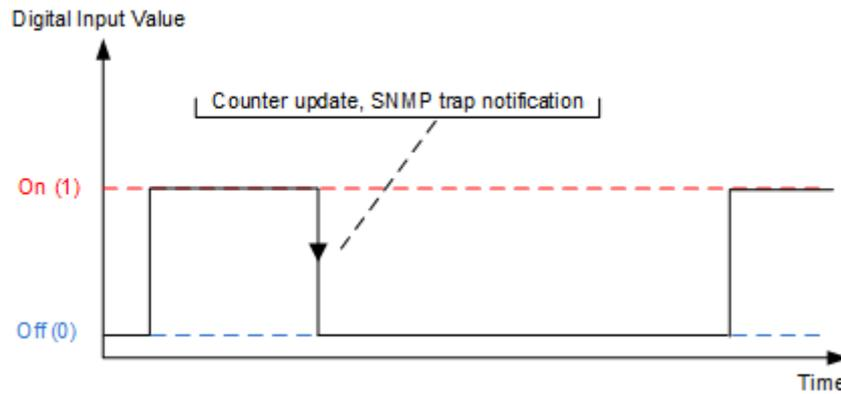
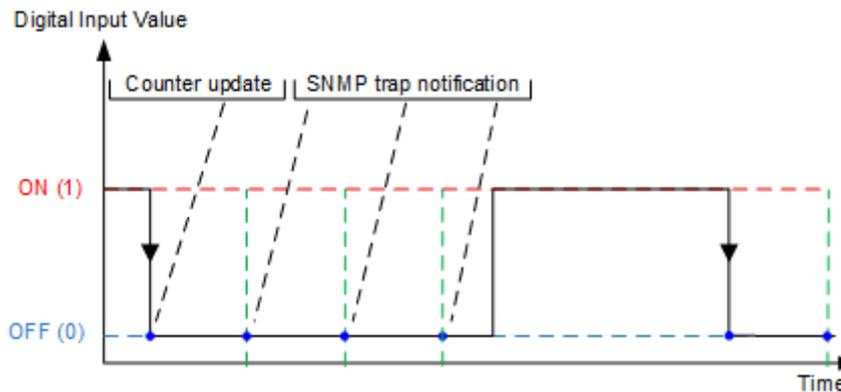

Figure 7.13. SNMP Trap Value="0 (Off)", Trap Sending="Edge Triggered"
Figure 7.14. SNMP Trap Value="0 (Off)", Trap Sending="Level Triggered"
- *0 (Off)* – the **Counter** is incremented on the falling edge (1 -> 0). With **SNMP Trap** enabled and **Trap Sending**="Edge Triggered" the falling edge triggers a trap message (Fig. 7.13). With **SNMP Trap** enabled and **Trap Sending**="Level Triggered" the trap message is sent while the Digital Input is low (0) in intervals of 5 seconds (Fig. 7.14).